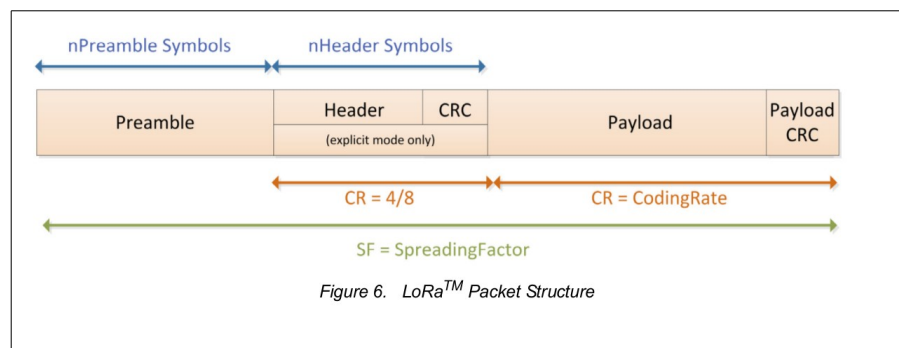

Figure 3. Lora RF module data packet, pp. 31 from the data sheet.
2. Use the sample code provided to this class to establish handshaking between 2 nodes, say, node N1 and N2. Note Lora RF module data packet format is given in the data sheet, as shown in Figure 3 below.